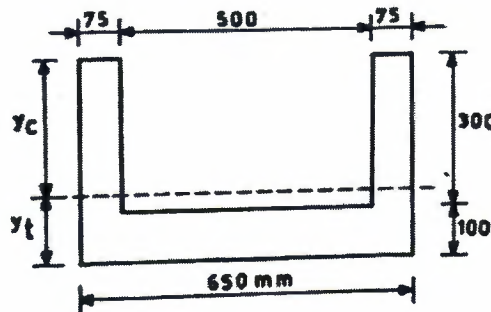

Figure 3 (Dimensions are in mm)
5. A reinforced concrete aqueduct of cross-section shown in Figure 3 carries water over a simply supported span of 7.5 m. Calculate Moment of inertia of section about the Centroidal axis and then find the maximum bending stresses developed in the section in tension and compression at the midspan and quarter span. [2+2+2]